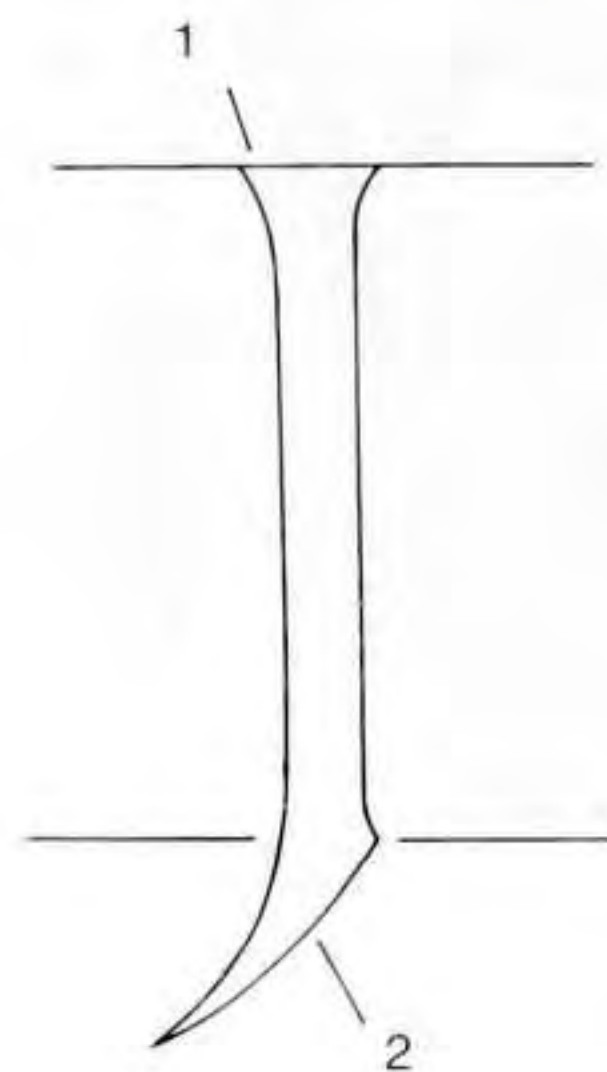

Fig 6.11 Features of the letter *J*.
See Fig 6.11. **J** resembles **I** in its upper portion (1). The serif should be made more distinct, and extended a little to the left.